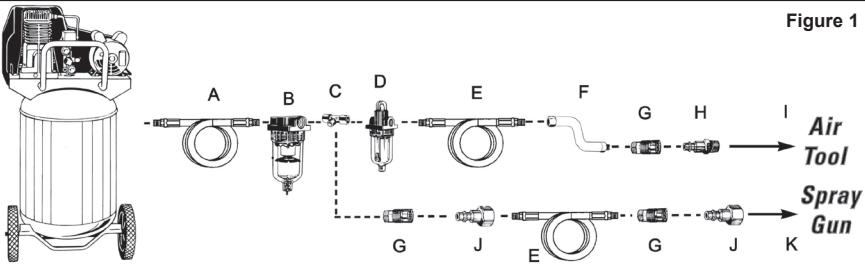

Figure 1
6. Connect the tool to the air hose quick coupler. **NOTE: It is recommended that a whip hose with a swivel (not included) be used to prevent twisting, kinking and excessive wear to the air hose (ref. item "F" in figure 1 for recommended connections).**